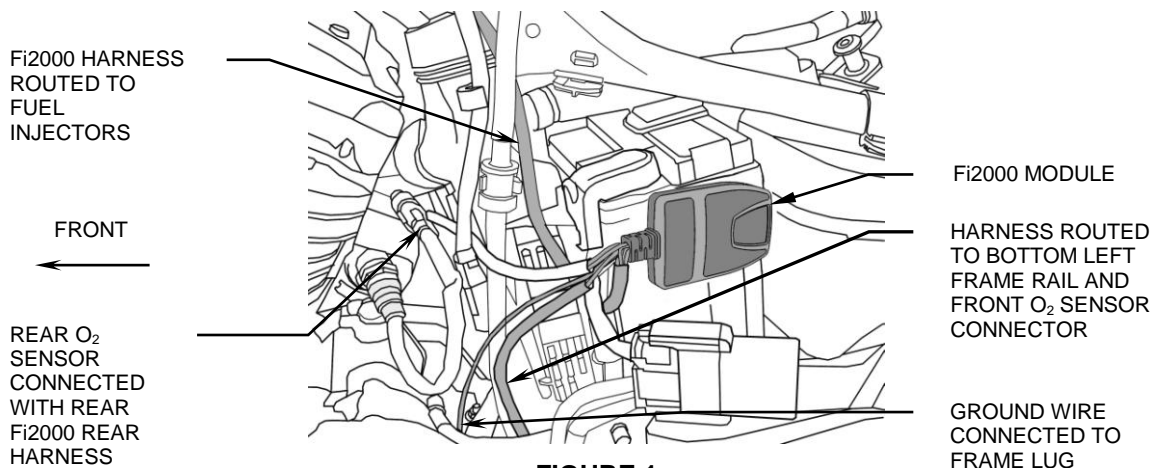

FIGURE 1
3. Disconnect the main fuse block located on the battery hold down strap and then Velcro the Fi2000 module to the battery hold down strap so that the module housing is no higher than the top of the battery. Now use the extra Velcro pad to re attach the main fuse block, see Figure 1.